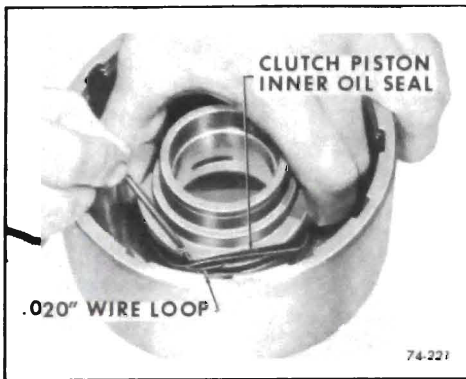

Figure 74-227
3. Lubricate with transmission fluid and install new forward clutch piston inner seal with seal lip pointing downward. See Figure 74-227.